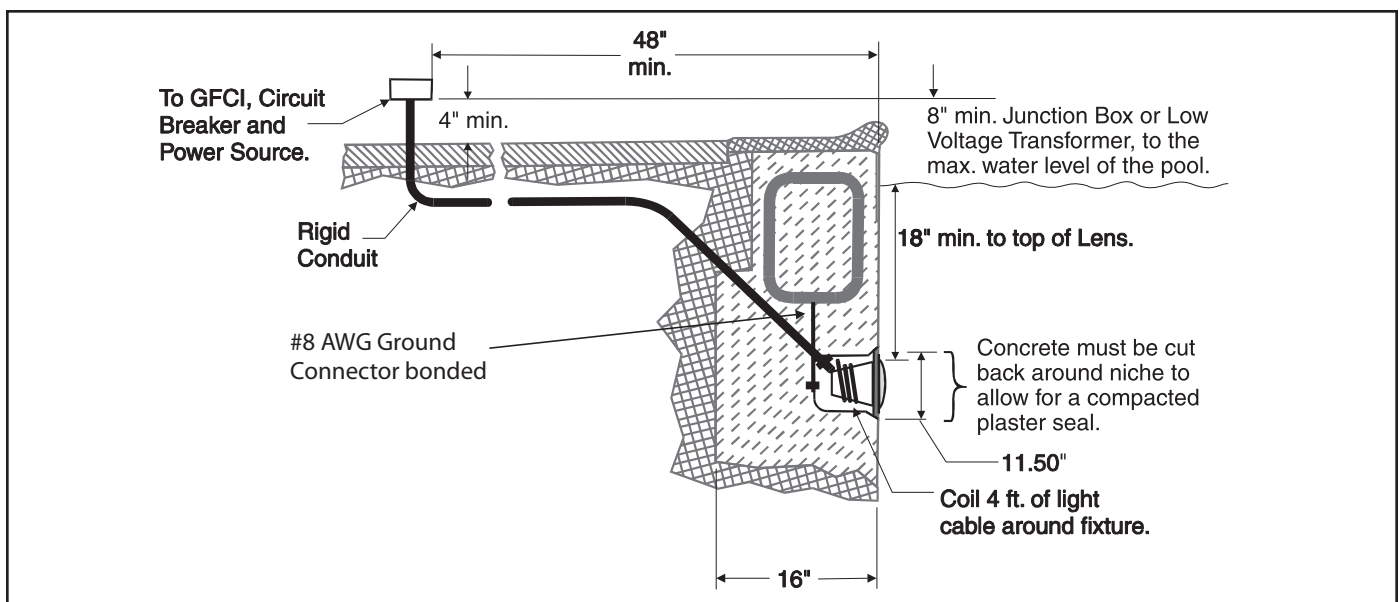

Figure 1. Pool Niche Installation
- The Junction Box (or, for 12 volt models, the low voltage transformer) must be located at least eight (8) inches above water level, at least four (4) inches above ground level, and at least four (4) feet from the edge of the pool or spa. See Figure 1.
- The light fixture and all metal items within five (5) feet of the pool or spa must be properly electrically bonded to a reliable point of grounding. Seal the wire/lug connection with a listed sealant.
- The wet niche must be properly installed so that the top edge of the underwater light's lens is at least 18 inches below (not more than 48 inches below in Canada) the surface of the water in the pool or spa. See Figure 1.
- The wet niche must be properly electrically bonded and grounded via the No. 8 AWG ground connector located at the rear of the niche. See Figure 1.